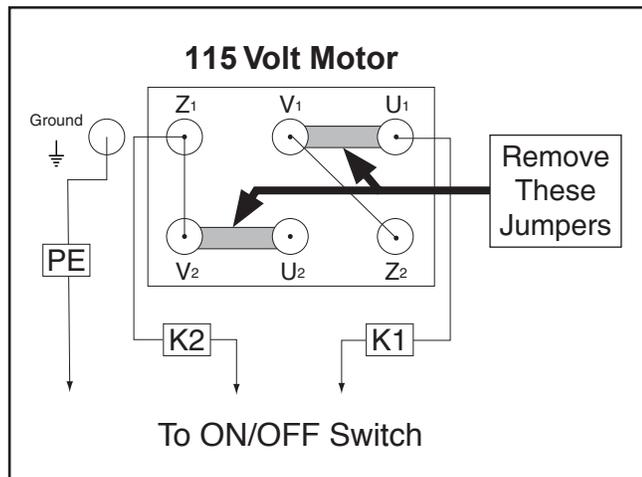

Figure 3. Terminal jumpers to be removed.
3. Open the motor junction box, then remove the terminal jumpers indicated in **Figure 3**.